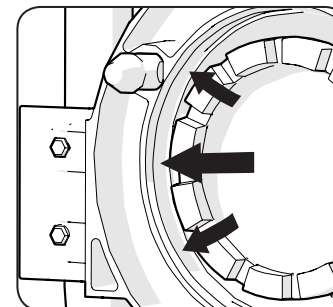

Fig 25
- The female annular ring is located around the accessory input shaft. (Fig. 25)